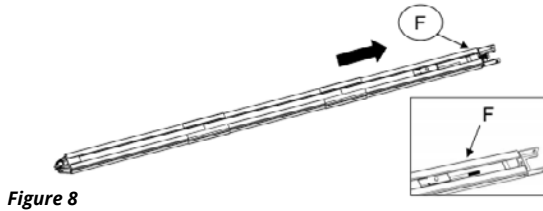

Figure 8
2. Cut the plastic thread; pull the screw rod along with inner chain to the end rail position (Fig.8)